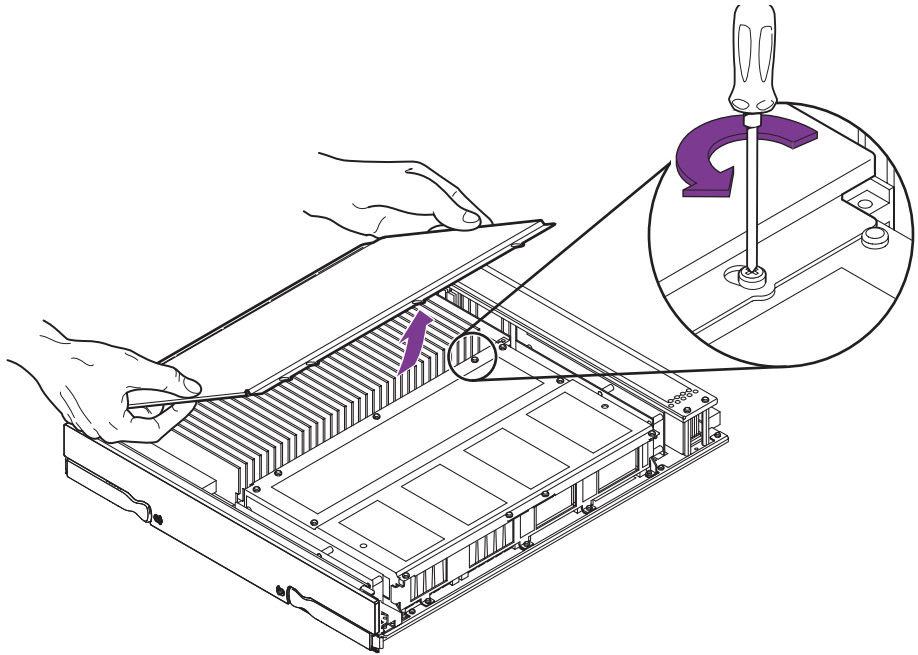

FIGURE 15-10 Removing the DIMM Cover
3. Remove the four screws to the DIMM cover. Remove the cover (FIGURE 15-10).
3. Remove the four screws retaining the DIMM cover. Remove the cover (FIGURE 15-10).